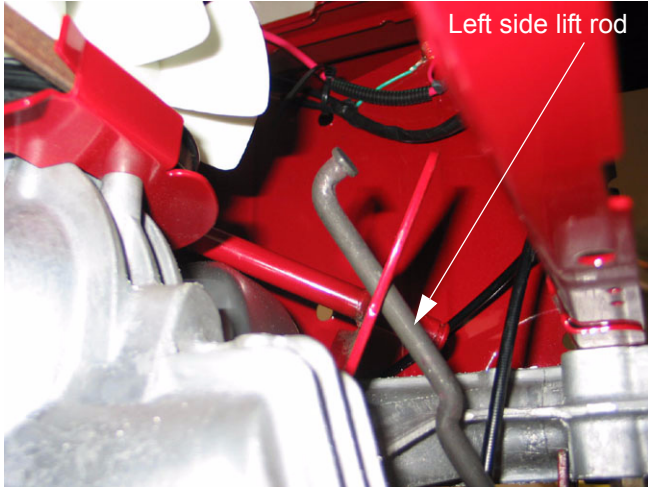

Figure 5.12
- 5.12. Maneuver the left side lift rod out of the curved slot in the lift-shaft arm, and up through the battery opening. See Figure 5.12.